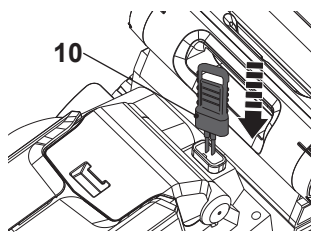
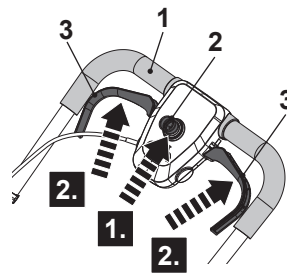

Fig. 17.
Fig. 18
1. Install the battery pack (20) into the battery compartment.
2. Insert the safety key (10) into the slot fully (Fig. 17).
3. Stand behind the grip handle (1).
4. While holding the safety switch button (2) pressed (Fig. 18, step 1), pull the start levers (3) towards the grip handle (1) (Fig. 18, step 2).
5. After the mower starts, release the safety switch button (2).
7. Release the start levers (3) to stop the mower.